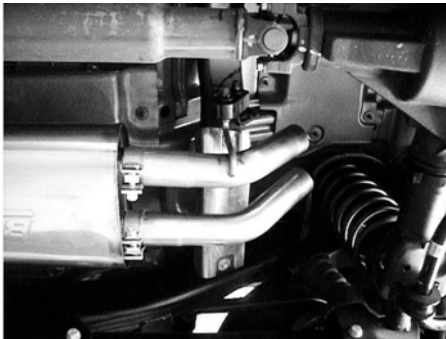

Figure 5
3. Place a clamp over each expanded end of both left and right muffler outlet pipes and place them into position as shown in figure 5. Install hanger on left muffler outlet pipe into rubber bracket. DO NOT tighten the clamps.